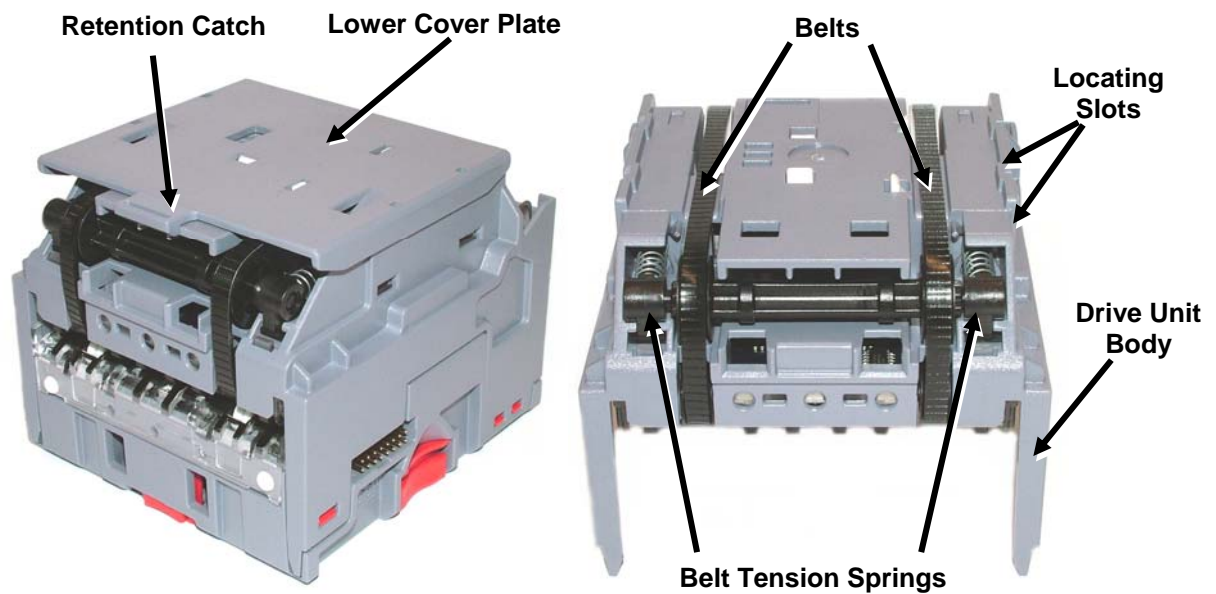

Figure 11 – NV10 Belt Access
- Remove the lower cover plate by lifting up the retention catch and carefully sliding it back (see figure 11).